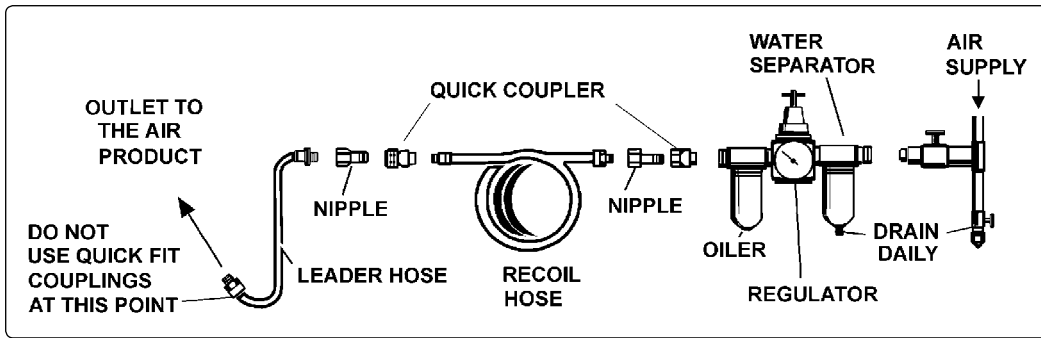

fig.1
4.1.4. Clean air inlet filter weekly. Recommended hook-up procedure is shown in fig 1.
Vibration may cause failure if a quick change coupling is connected directly to the air sander. To overcome this, connect a leader hose to the sander. A quick change coupling may then be used to connect the leader hose to the air line recoil hose. See figs 1 & 2.